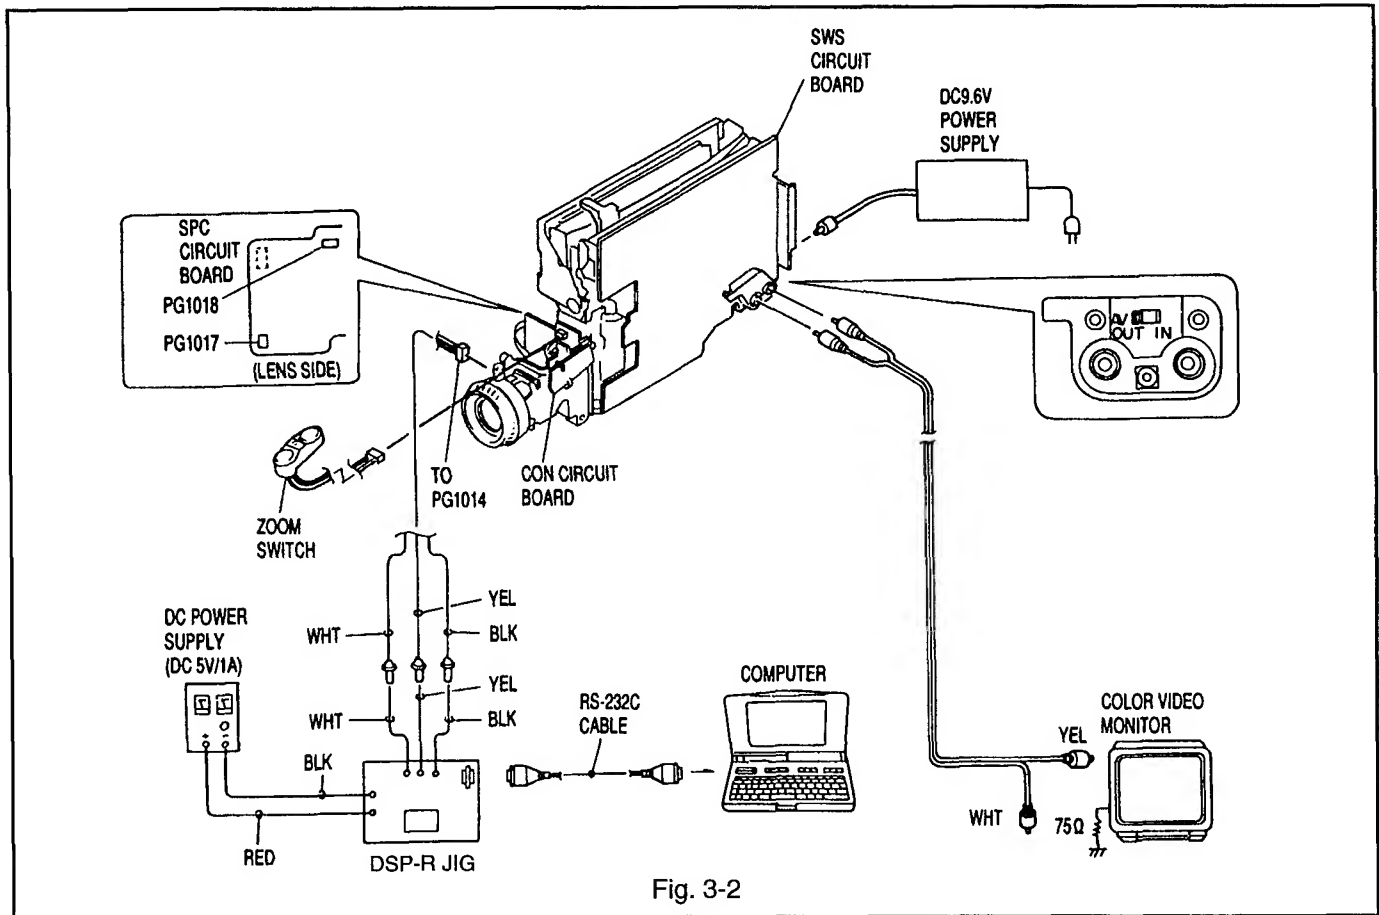

Fig. 3-2
- 3) Connect this unit, a power supply and a color video monitor as shown in Fig. 3-2.
Remove the component, etc. listed below first, referring to "CHAPTER 2 DISASSEMBLY". (See Fig. 3-2)